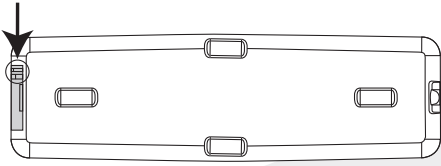

FIG. 41
1. **Slide** tab on the bottom of the remote (Fig. 41).